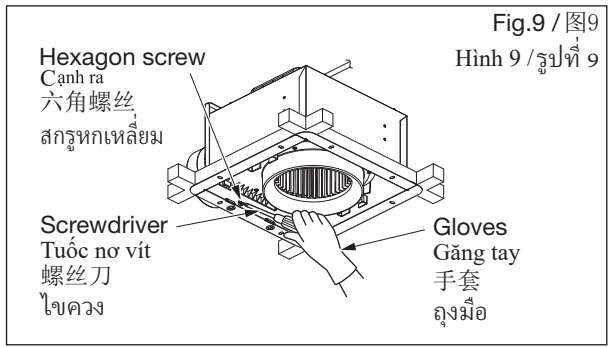

Fig.9 / 图9
- ⑦ Fix adaptor assembly and fan body firmly with hexagon screw removed in step ②. (Fig.9)
用步骤②中拆下的螺丝将机体与接头组合牢固的固定起来 (图9)。